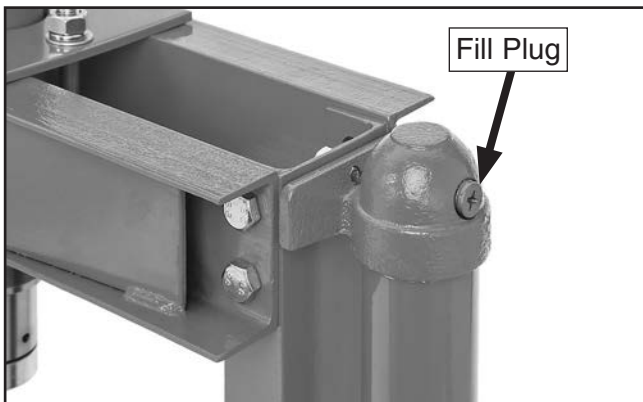

Figure 28. Fill plug location.
3. Using a #2 Phillips head screwdriver, remove the fill plug shown in **Figure 28**. Next, invert the pump assembly and drain the hydraulic oil into a waste oil container.
2. Remove fill plug shown in **Figure 28**, and top-off the hydraulic oil level as required to the point where oil begins to pour out of the port.